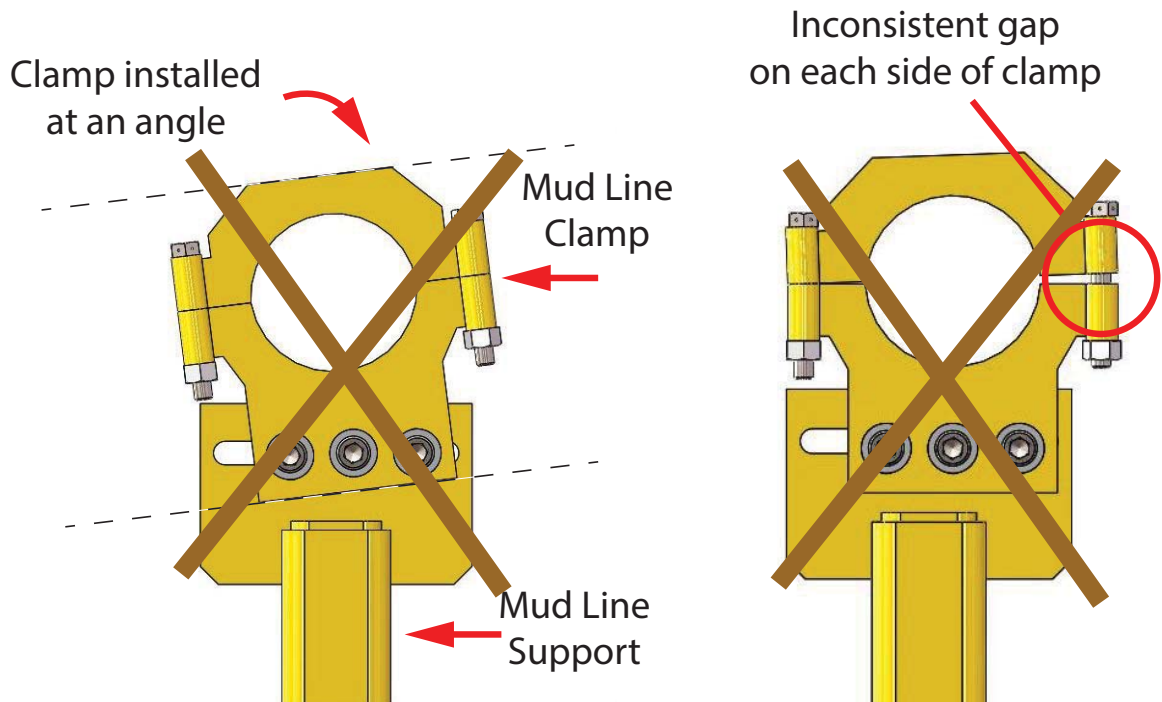

Figure 2: Common problems when installing mudline clamps
1. Visually inspect the mud line clamp installation and confirm that mud line clamp is parallel with the mud line support, and not installed at an angle, as shown in Figure 2.
3. If mud line clamps appear to be installed improperly, check the gap between the two clamps as shown in Figure 2. Gaps on either side of the clamp should be equal to each other.